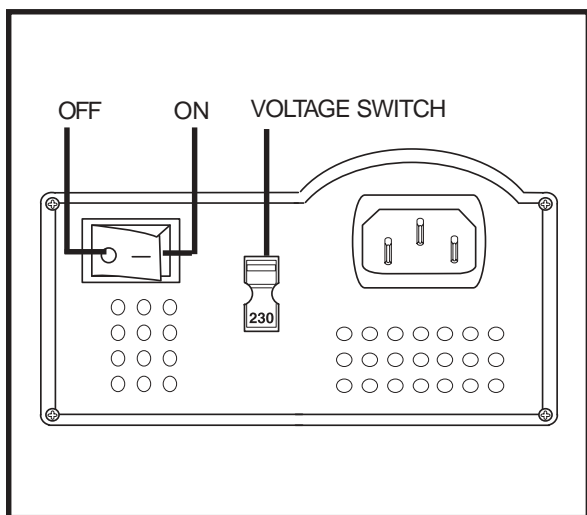

Figure 12. Charger On/Off and Voltage Switches
The off-board charger supplied with your scooter is equipped with a 115/230 voltage switch. Confirm that this switch is in the proper position for your locality. If you are not sure what the voltage is in your country, contact your local electricity dealer before inserting the charger power lead plug into your wall socket. If the setting is incorrect, the charger will not function properly. Slide the voltage switch to the appropriate position. See figure 12.
7. Turn the charger on. See figure 12. We recommend that you charge the batteries for 8 to 14 hours.